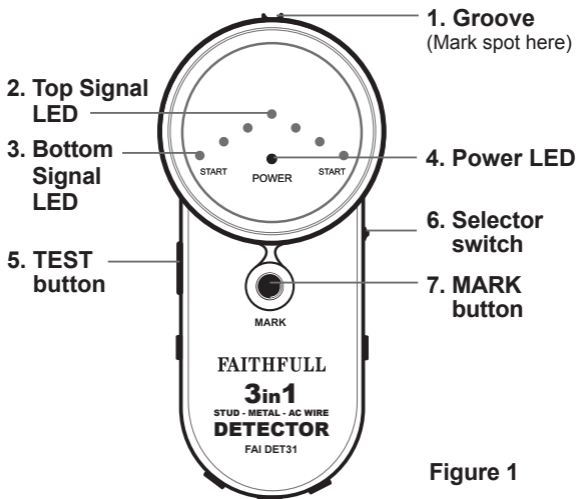

Figure 1
- a. Place the detector on the surface and slowly move the unit sideways (fig 1). When the detector moves closer and closer to the stud, the signal LEDs will light sequentially from bottom to the top. When the top signal LED lights and the built-in buzzer sounds continuously, the unit has detected the stud's edge. Stop moving and mark a spot in the detectors groove on the walls surface (fig 2).
- a. Place the detector on the surface and slowly move the unit sideways. When the unit moves closer and closer to a metallic object, the signal LEDs will light sequentially (fig 1). When the top signal LED lights and the buzzer sounds continuously, the unit detects the metallic object's edge, stop moving and mark a spot in the groove (fig 2).
- Place the detector on the surface and slowly move the unit sideways (fig 1). When the top signal LED lights and buzzer sound continuously, stop moving, the detector has located the edge of a live wire, mark a spot in the groove on the walls surface (fig 2).